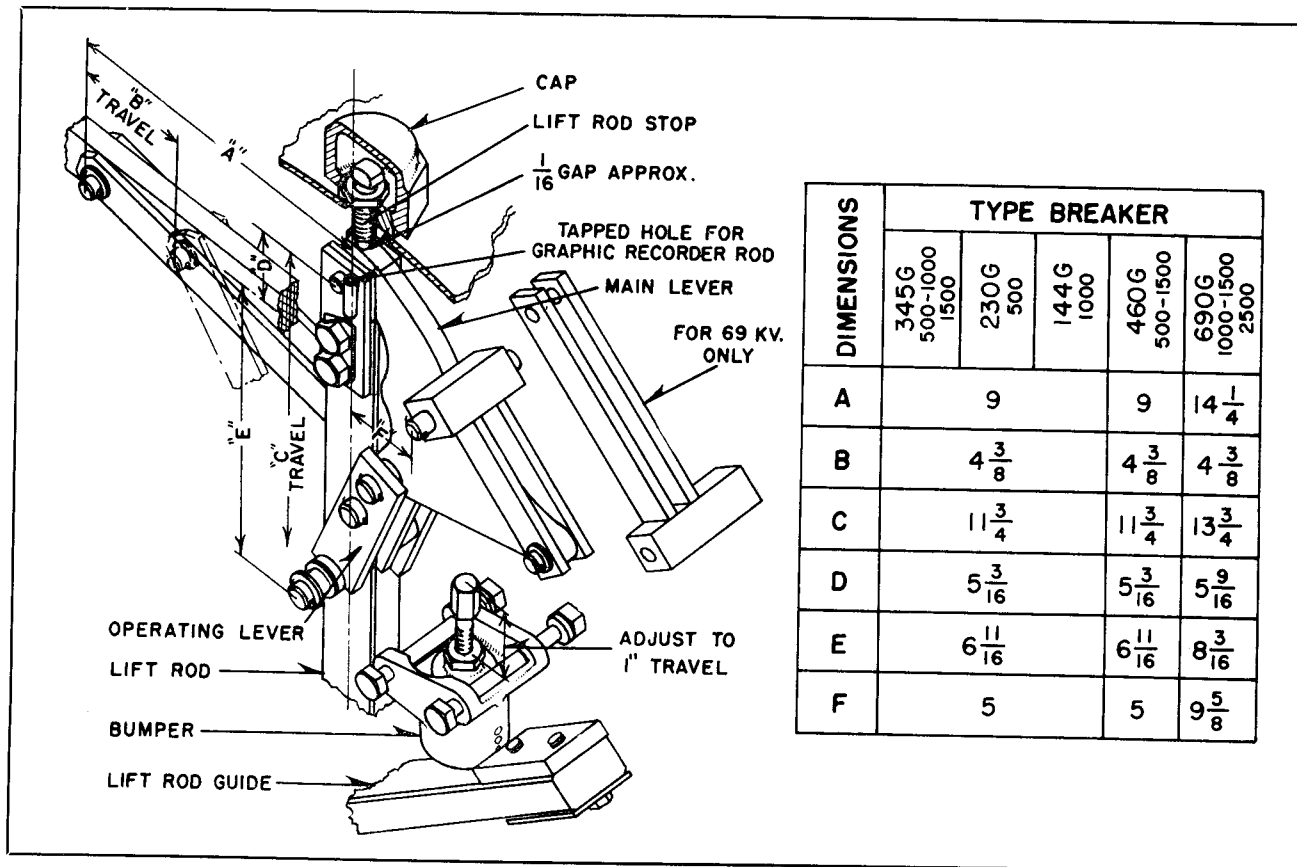

FIG. 5. Pole Unit Assemblies
*Note: Removing lift rod stop cap, reveals a hole in top of each tank. For operating a graphic recorder, a rod is inserted through this opening and screwed into a 10-32 tapped hole in a block on the side of the lift rod. See Fig. 5.*
4. The pole unit lever assemblies. These are an assembly of levers, designed to transfer horizontal motion of the pull rod into straight-line vertical motion of the lift rod. (See Fig. 5.)